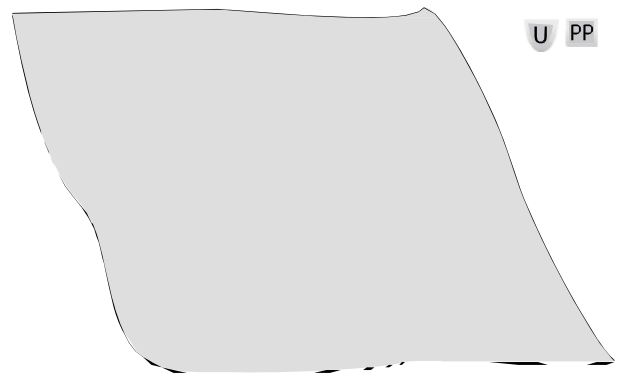

Fig. 2
2. Insert top and bottom fixed shelves into the corresponding dowel holes on one of the partitions. (See Fig. 2 .)